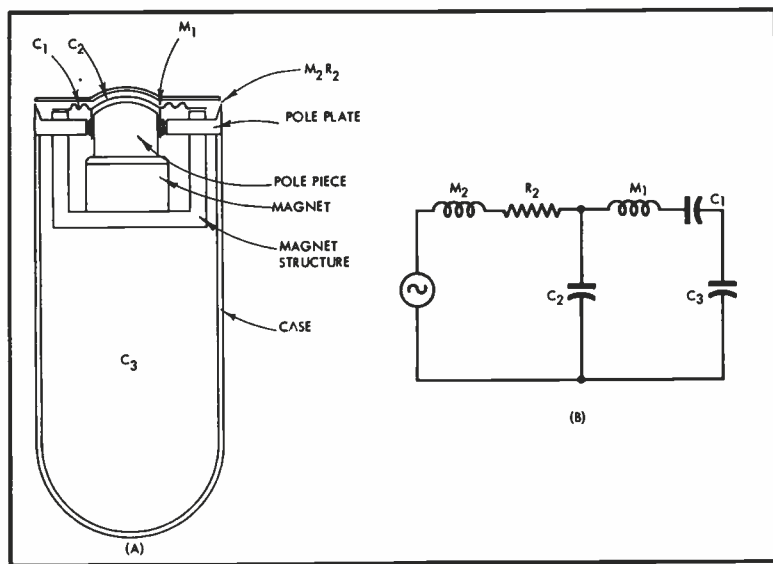

Fig. 5. (A), Schematic of microphone in which acoustic resistance is provided by narrow annular slot, and (B), its equivalent circuit.
These problems in the high-frequency range of the conventional moving-coil microphone have been solved in the design herein described by placing the controlling resistance R_2 between sound field and diaphragm. A schematic cross-section of this microphone is shown at (A) in Fig. 5.
The mechanical-acoustical system is essentially the same as that of the conventional microphone except that the controlling resistance R_2 is now interposed between diaphragm and sound field. This resistance may take the form of a narrow circular slot formed between an edge of the pole plate and a solid cap. In the equivalent electrical analogue, (B) of Fig. 5, M_1C_1 again are mass and compliance of the diaphragm voice-coil assembly and C_3 is the compliance of the volume enclosed by the case. R_2 is the resistive component of the controlling resistance and M_2 the mass associated with it. C_2 is the compliance of the small volume between cap and diaphragm coupling R_2M_2 to the diaphragm.